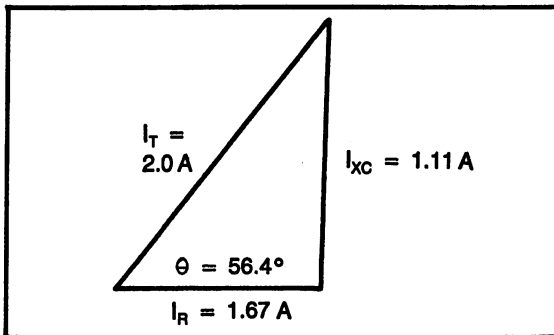

Fig. 14-10. Current triangle for sample problem 14-10.
Step 1. Current triangle, Fig. 14-10.